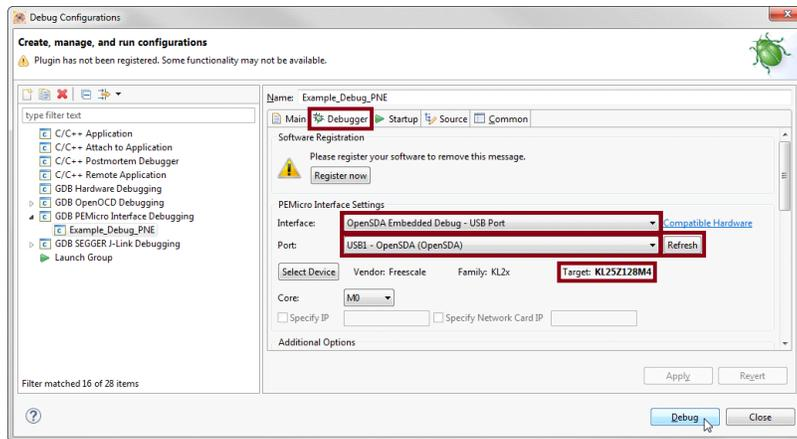

Figure 18. Downloading the application (b)
4. Click the **Debugger** tab and set the **Interface** option to **OpenSDA Embedded Debug - USB Port**. Then click the **Refresh** button next to the **Port** setting to update the list of available USB ports (see Figure 18).